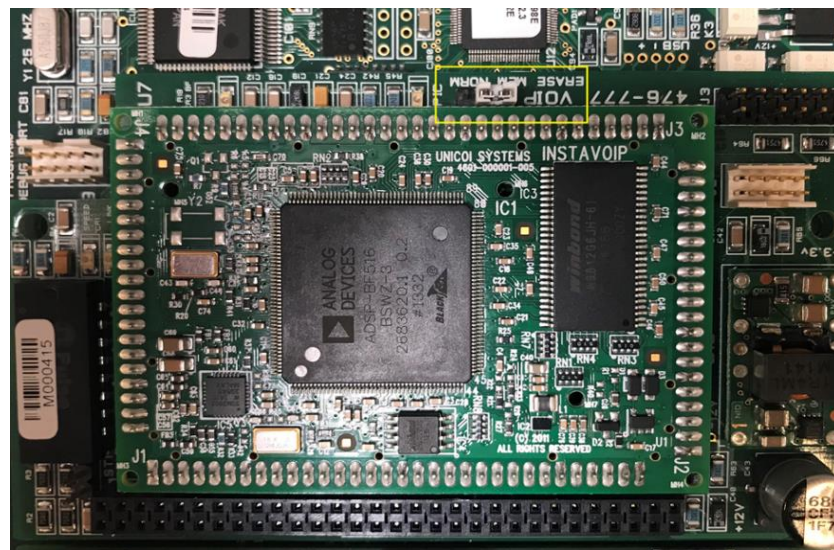

Figure 9-1: Location of reset jumper on VoIP module.
3. There is a white jumper that is currently on “MEM” and “NORM”. This can be seen in the Figure 9-1. Move the jumper to “ERASE” and “MEM”. ****Some older modules were made without the jumper pins. If you have one that does not have a jumper, refer to Section 9.2 How to Reset the VoIP Interface to Have Default Settings through the Webpage to reset to default settings.****